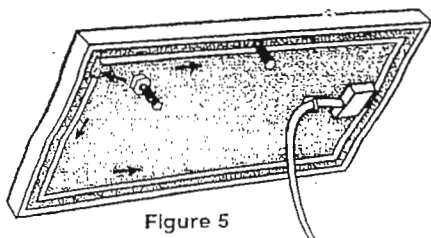

Figure 5
2. Slide the heads of two 6-mm metric hex-head bolts into the slot in the back of the solar panel as shown in Figure 5.